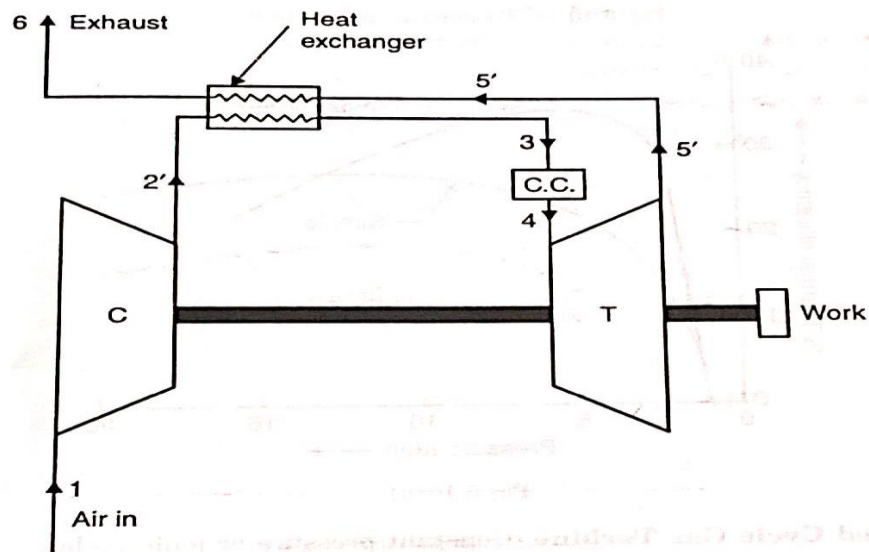

Fig. 5.9. Gas turbine with regenerator.
**3. Regeneration.** The exhaust gases from a gas turbine carry a large quantity of heat with them since their temperature is far above the ambient temperature. They can be used to heat the air coming from the compressor thereby reducing the mass of fuel supplied in the combustion chamber. Fig. 5.9 shows a gas turbine plant with a regenerator. The corresponding T-s diagram is shown in Fig. 5.10. 2'-3 represents the heat flow into the compressed air during its passage through the heat exchanger and 3-4 represents the heat taken in from the combustion of fuel. Point 6 represents the temperature of exhaust gases at discharge from the heat exchanger. The maximum temperature to which the air could be heated in the heat exchanger is ideally that of exhaust gases, but less than this is obtained in practice because a temperature gradient must exist for an unassisted transfer of energy. The effectiveness of the heat exchanger is given by :